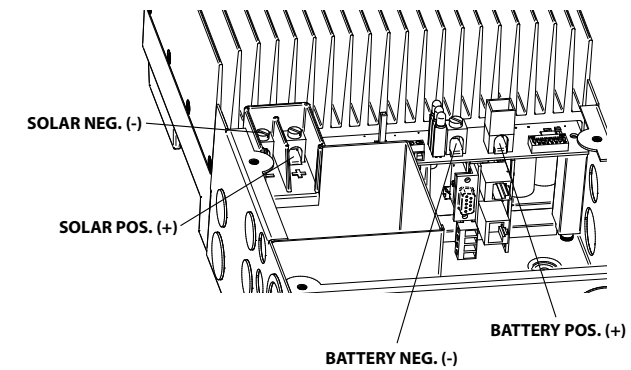

Figure 3-14. Power Terminal Locations
Connect the four (4) power conductors shown in Figure 3-14 as described in the following steps:
- Connect the battery (+) wire to the battery (+) terminal on the TriStar MPPT 600V. The battery (+) terminal has a red cover. See Figure 3-14.
- Connect the battery (-) wire to the battery (-) terminal on the TriStar MPPT 600V. See Figure 3-14.
- Replace cover, and secure with four (4) screws.